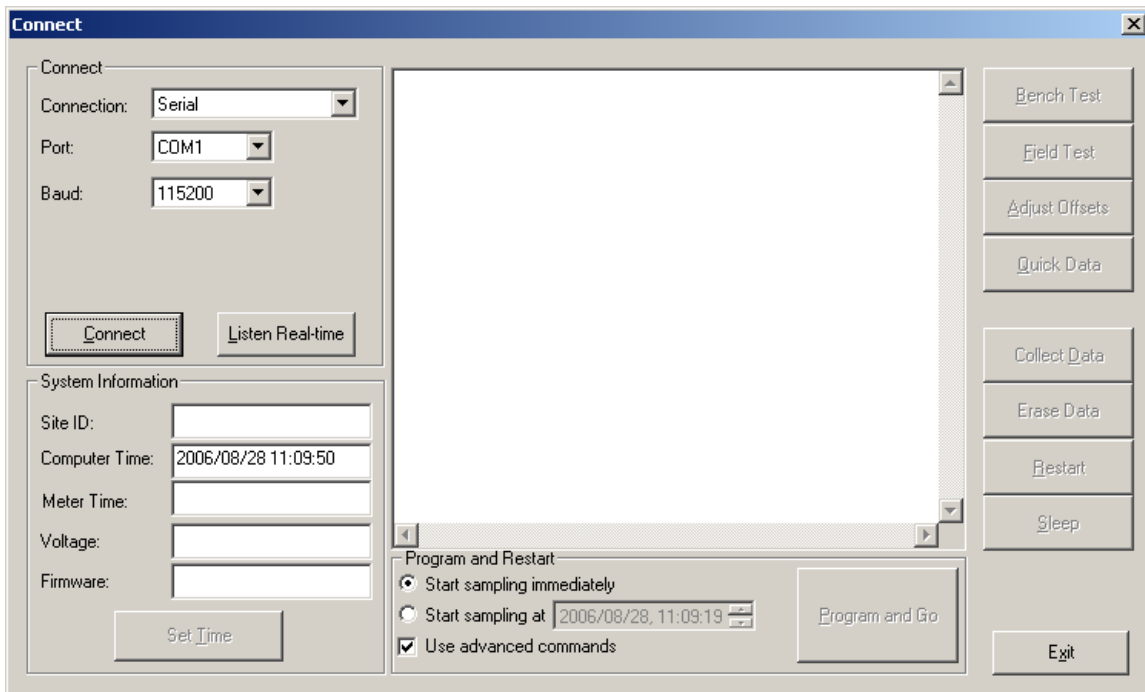

Figure 2-40 Connect Screen
6. Click Connect (Figure 2-40).